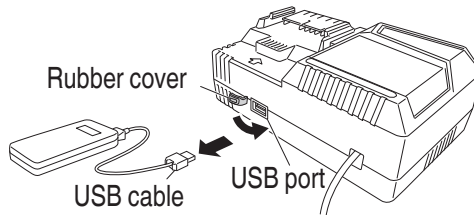

Fig. 17
(3) When charging is completed
- Unplug the power cord from the electrical outlet. (**Fig. 17**)